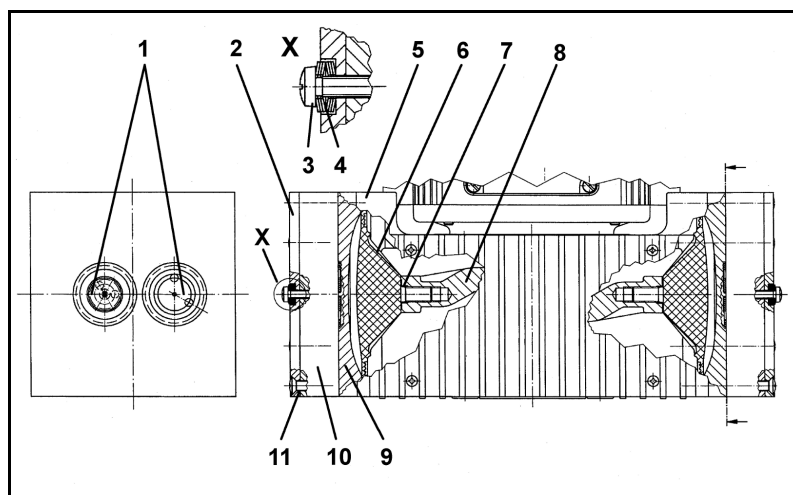

Fig. 11: Cross section of pump heads for pump N 860.3 FT.40.18 (sym-bolic)
3. At both pump heads make a mark (M) on the top plate (fig. 11/2), head plate (10), intermediate plate (9), and housing (5) with a felt-tip pen. This is to ensure that the parts will be reassembled correctly at a later stage.
4. Undo the eight screws (11).
5. Lift the pump heads off the housing (5).
i The concave side of the first three disc springs must point away from the screw head, the next three towards it (see fig. 11, detail X).